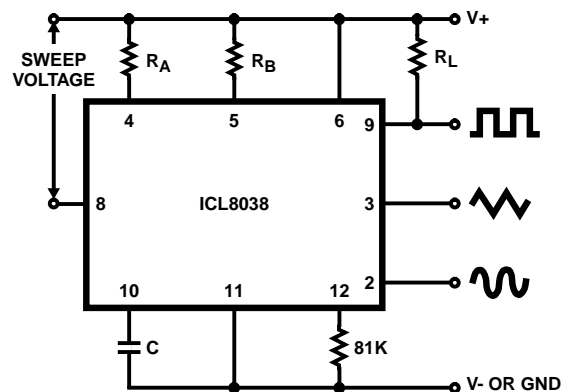

FIGURE 5B. CONNECTIONS FOR FREQUENCY SWEEP
- The hi and lo frequencies can be obtained by connecting pin 8 to pin 7 (f_{HI}) and then connecting pin 8 to pin 6 (f_{LO}). Otherwise apply Sweep Voltage at pin 8 ($\frac{2}{3} V_{\text{SUPPLY}} + 2\text{V}$) $\leq V_{\text{SWEEP}} \leq V_{\text{SUPPLY}}$ where V_{SUPPLY} is the total supply voltage. In Figure 5B, pin 8 should vary between 5.3V and 10V with respect to ground.
For larger FM deviations or for frequency sweeping, the modulating signal is applied between the positive supply voltage and pin 8 (Figure 5B). In this way the entire bias for the current sources is created by the modulating signal, and a very large (e.g. 1000:1) sweep range is created ($f = 0$ at $V_{\text{SWEEP}} = 0$). Care must be taken, however, to regulate the supply voltage; in this configuration the charge current is no longer a function of the supply voltage (yet the trigger thresholds still are) and thus the frequency becomes dependent on the supply voltage. The potential on Pin 8 may be swept down from V+ by $(1/3 V_{\text{SUPPLY}} - 2V)$.